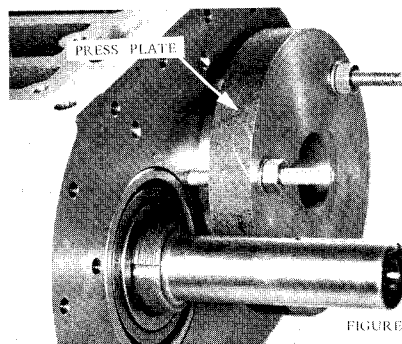

FIGURE 13
13. Place the assembly in a horizontal position on substantial blocking. Lightly coat the shafts and bearing bores at the inlet end with "Moly" type grease. Slip bearing inner race and roller assembly over the shaft; start outer race in the bearing bore, assemble press plate (Sketch B) as shown in Figure 13, and press the inlet end roller bearings in place. Tighten the nuts on the press bolts evenly to prevent cocking of the bearing. If a press is used, provide an adaptor plate that catches both the inner and outer race to press